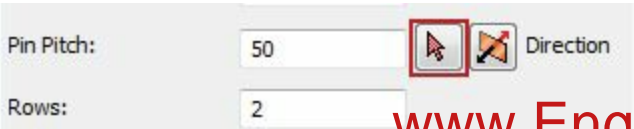

Figure-27. Button selecting Pin Pitch reference
- Click on the Select reference button next to Pin Pitch edit box in the dialog box to select reference for column direction; refer to Figure-27. On doing so, you will be asked to select a reference entity.